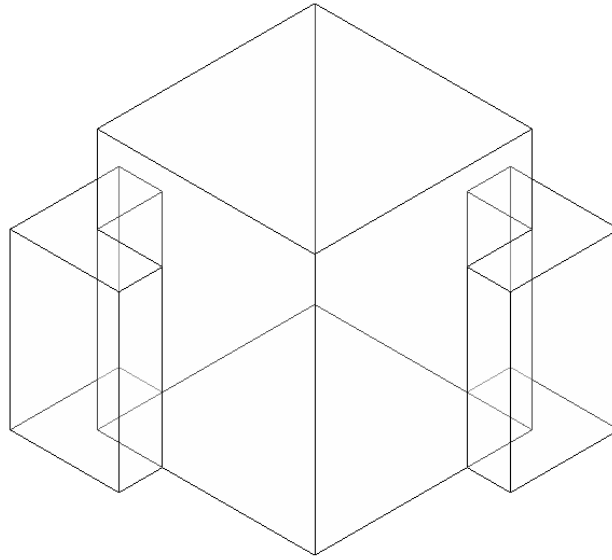

Figure 9-43 3D view of the massing geometry
25. Choose the **Default 3D View** tool from the **View** toolbar and then choose **View > Orient > Northeast** from the menu bar to display the created massing geometry in 3D, as shown in Figure 9-43.